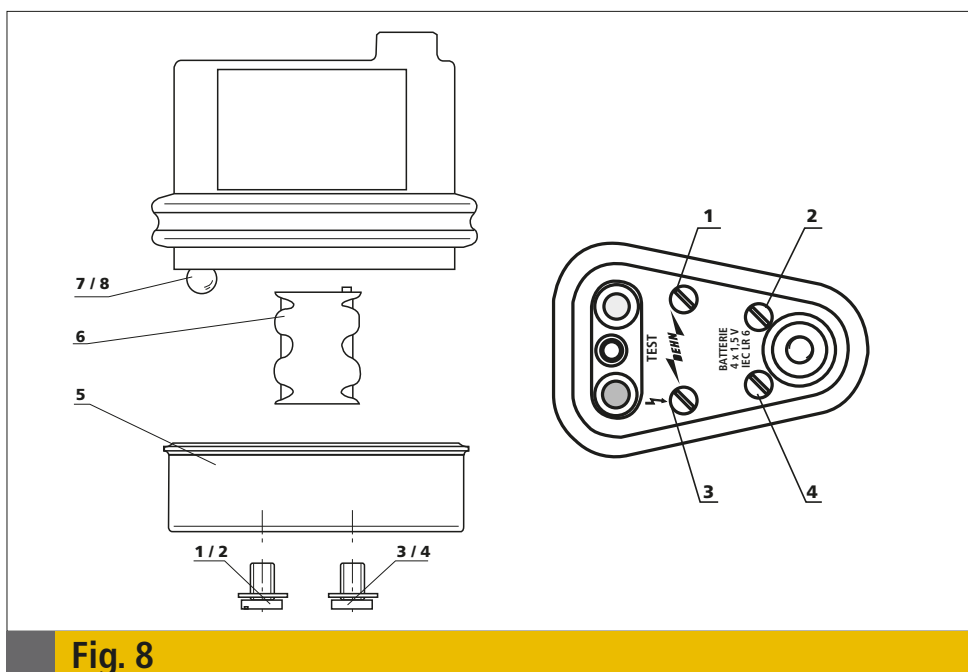

Fig. 8
8.1 Battery replacement (see Fig. 8, page 11)
8.2 Light replacement (see Fig. 8, page 11)